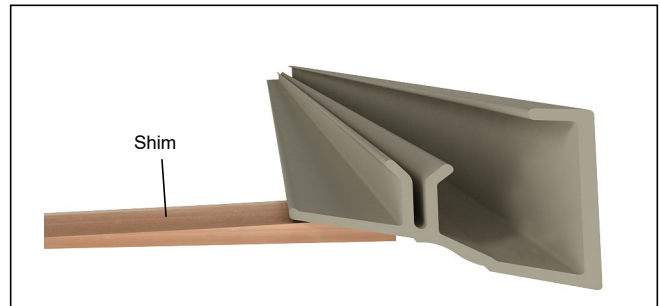

Figure 51
2. Shim under the inside edge of BMC before applying screws to corner key. See *figure 51*.